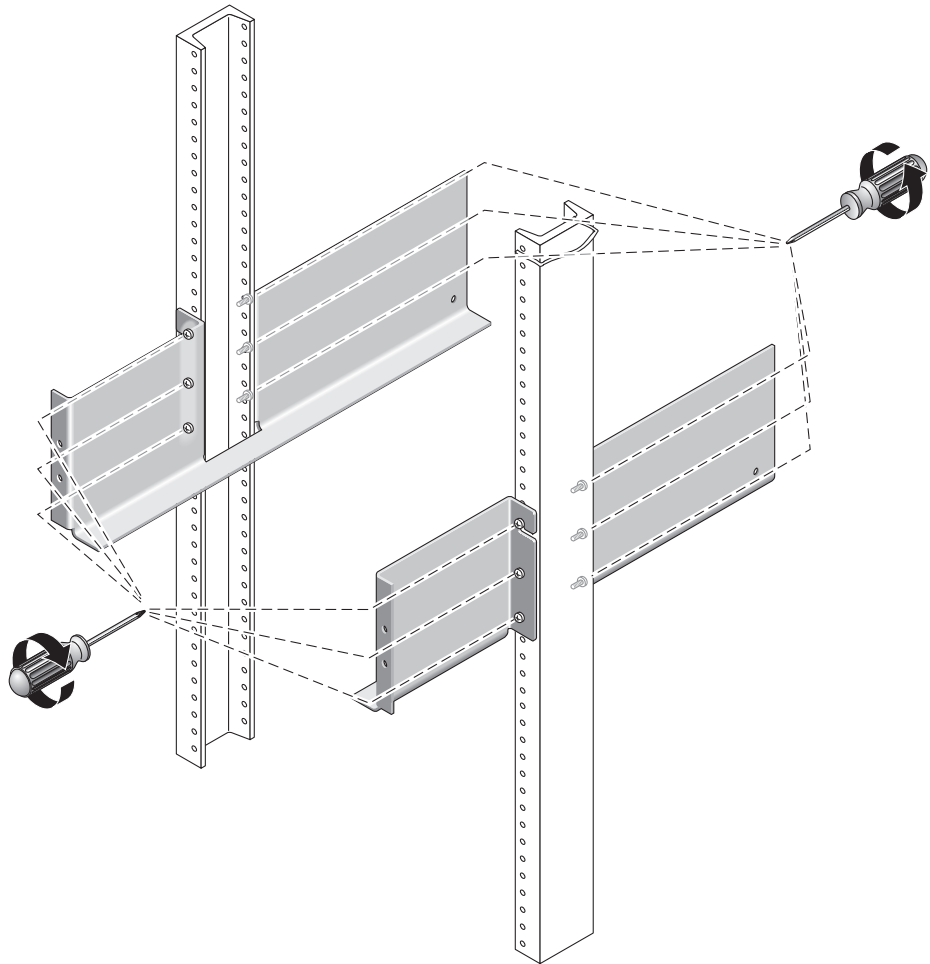

FIGURE 5 Tightening the Screws of the Left and Right Rails
- Using the #3 Phillips screwdriver, tighten all twelve screws (six on each side) at the front and back of both mounting rails to secure each rail to its post (FIGURE 5).